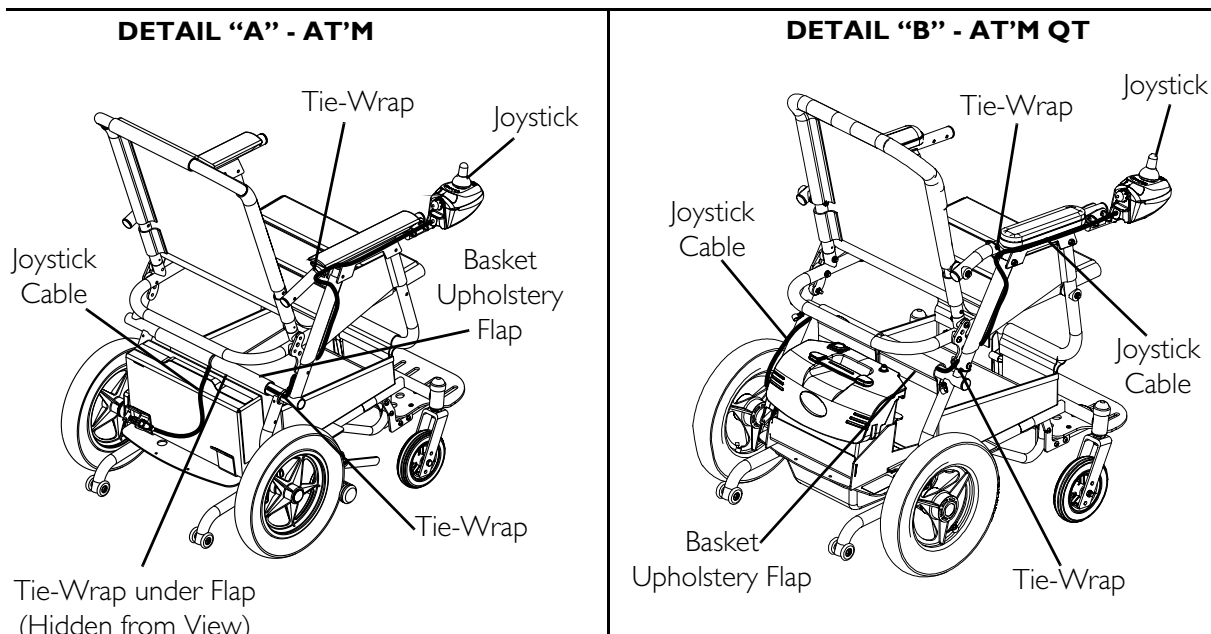

FIGURE 7.2 Removing/Installing the Joystick
NOTE: For this procedure, refer to FIGURE 7.2 on page 42.
2. Cut the tie-wraps that secure the joystick cable to the wheelchair arm and frame. Refer to Detail "A" of FIGURE 7.2.
3. Secure the joystick cable to the wheelchair arm with three tie-wraps. Refer to Detail "A" of FIGURE 7.2.
NOTE: For this procedure, refer to FIGURE 7.2.